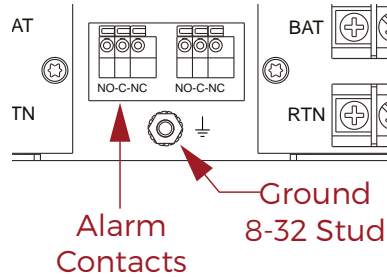

Figure 7. Alarm Contact & Ground Detail
Each terminal is a no. 6-32 screw and is rated at 30 amperes. Wire sizes from no. 10 AWG up to no. 22 AWG may be used for connections. Figure 7 below shows detailed spacing of the terminals.
9.5 Form C Relay Contact Outputs. The center of the back panel has connections to the Form C relay contact outputs for connection to external audible or visual alarm circuits. See Figure 7.
- 11.2 **Connections.** Input connections should be made with one- or two-terminal crimp type lugs using copper wire size from no. 1 to 8 AWG, depending on current and wire loop distance. See Sections 9.2 and 9.3. Output connections are made to the barrier terminal strips. See Section 9.4 and Figure 7.